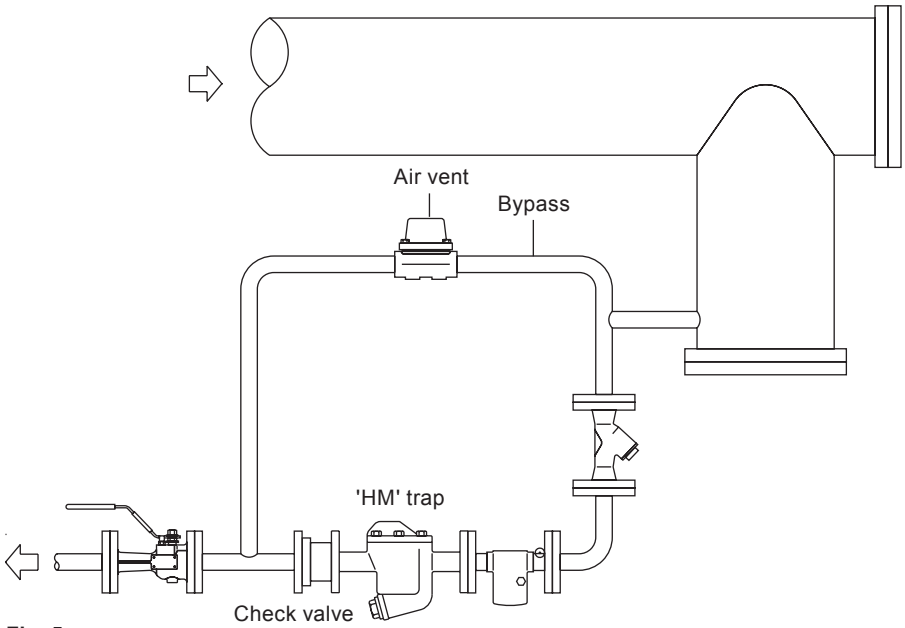

Fig. 5
- 3.5** Inverted bucket steam traps do not permit rapid release of air. On process applications, in particular, this can lead to slow warm-up times and waterlogging of the steam space. A separate external air vent is therefore required in parallel to vent air efficiently. Any bypass should be positioned above the trap. If it is below, and is leaking or left open, the waterseal could be blown away leading to steam wastage (see Fig. 5). Where inverted bucket traps are fitted in exposed conditions the possibility of freezing damage can be reduced by thermal insulation.